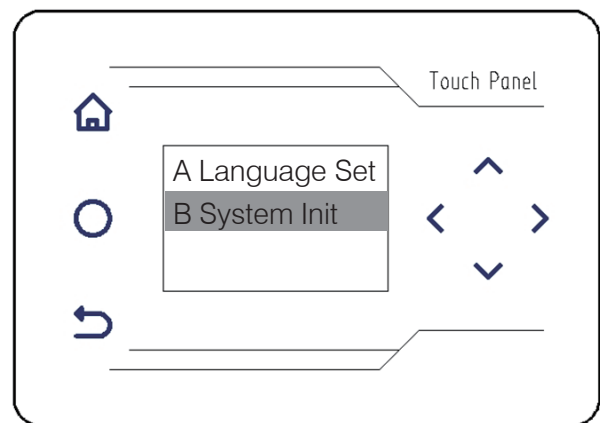

figure 46
B. Initialize the system (figure 46)
Under the sub-menu interface of "advanced Settings", press,  $\wedge$ 、 $\vee$  add/subtract, select and press "initialization system" (figure 46),